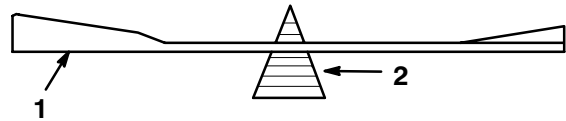

Figure 39
2. Check the balance of the blade by putting it on a blade balancer (Fig. 39). If the blade stays in a horizontal position, the blade is balanced and can be used. If the blade is not balanced, file some metal off the back side of the blade. Repeat this procedure until the blade is balanced.